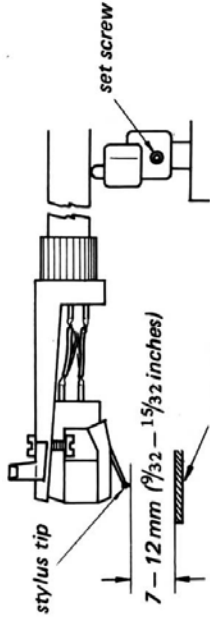

Fig. 3-1.
3. Confirm that the clearance between the stylus tip and the record is 7 - 12 mm as shown in Fig. 3-1. If necessary, adjust the height of the arm lifter by loosening the set screw.
2. Lift the cueing lever and confirm that the clearance between the stylus tip and the record is 7 - 12 mm as shown in Fig. 3-1. If necessary, bend the seesaw plate and adjust the height of the tonearm by turning the adjustment screw.